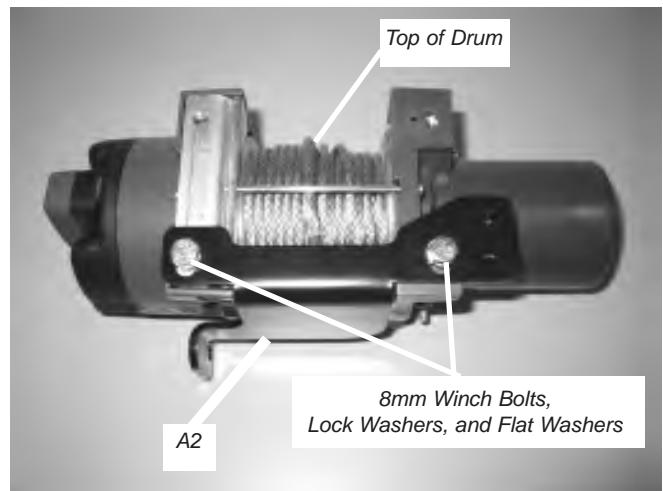

Figure 8 Attach Winch onto Lower Mounting Bracket
- Attach the winch to the lower mounting bracket (A2), figure 8. Use the two 8mm-1.25 x 20mm bolts and lock washers supplied with the winch, and place a 8mm flat washer (B2) between each lock washer and the lower mounting bracket. Do not tighten the bolts at this time.